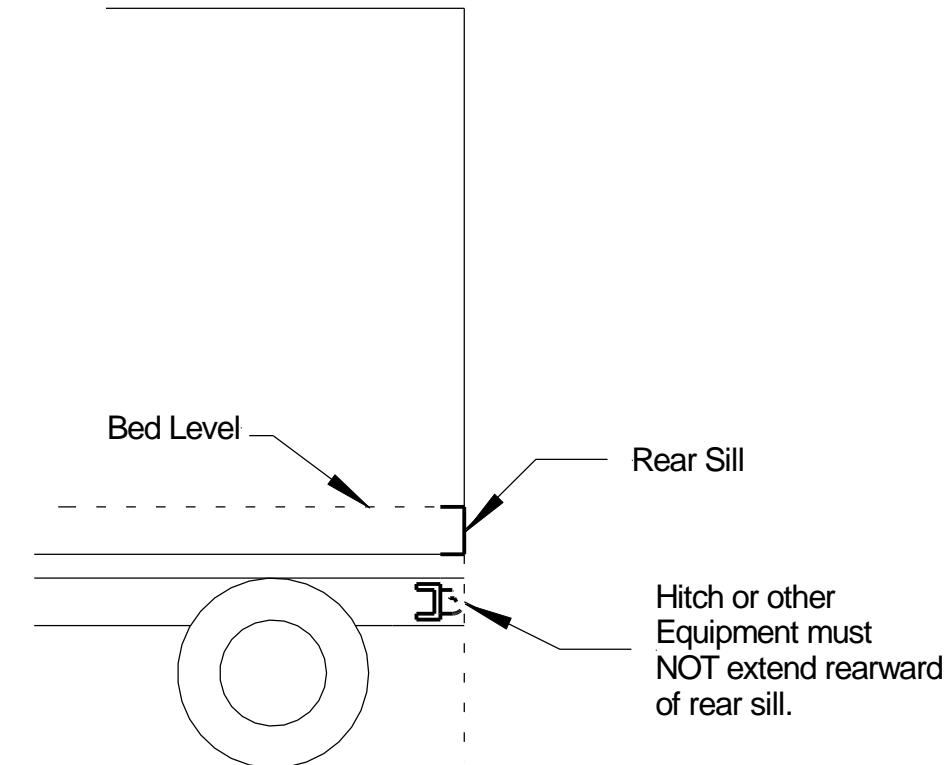

Fig. 3
1. Relocate Hitch (If applicable): Trailer Hitches are common truck or trailer equipment and are compatible with the PTV series; however, they **must not stick out** further than the rear sill. Relocate or remove tow hitch or other auxiliary equipment, if necessary. **Fig. 3.**